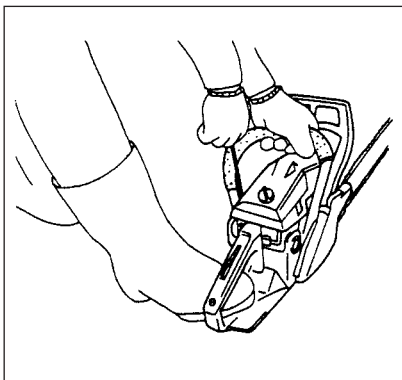

Fig. 2-4
3. Pull recoil starter slowly until you feel compression resistance, and then pull briskly, taking care to keep the handle in your grasp and not allowing it to snap back. (Fig. 2-4)